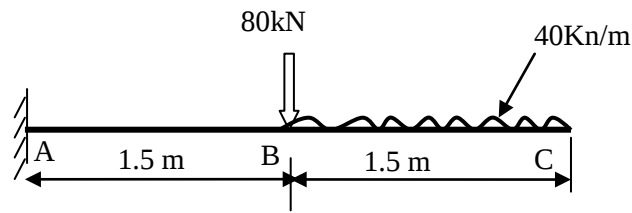

Fig. 2
- (a) For the given beam, draw the shear force diagram in Fig. 2. **03**
- (c) Determine the maximum shear stress in the beam shown in Fig. 2, which has a Cross sectional size 115 mm x 300 mm. Also find the shear stress at the free end of this beam. **04**